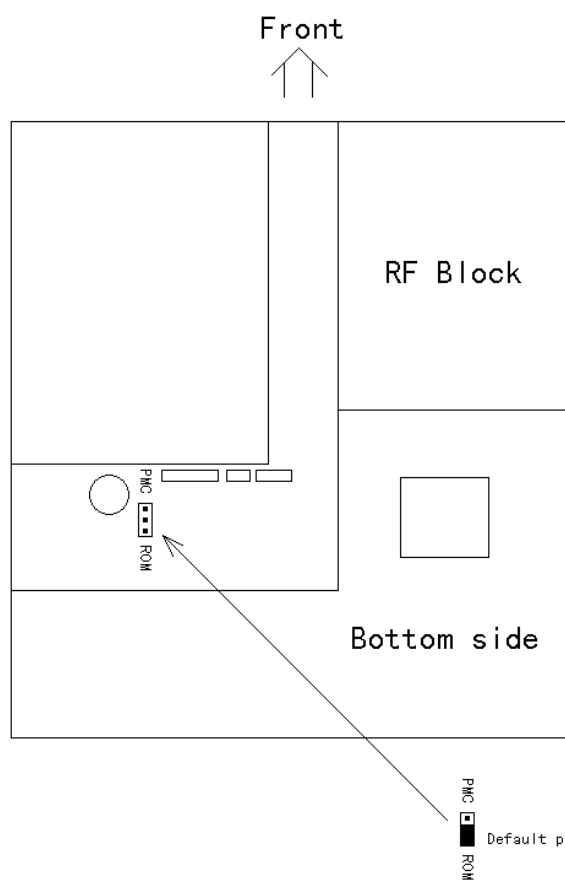

Fig. 3
4. Place the short jumper on PMC side. (Fig. 3)
9. Place the short jumper on ROM side. (Fig. 3)